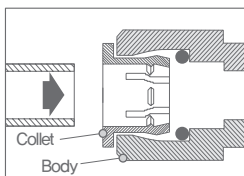

Fig. 3-1: Insert the hose into the collet.
1. Push the hose in the part assembled with collet deeply and connect (Figure 3-1, 3-2).